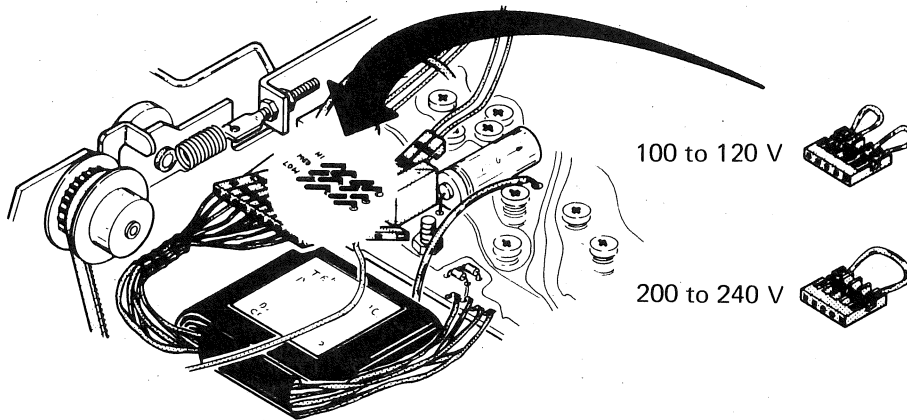

Fig. 5-2.
3. The power supply board has three rows of four pins each. The pins are jumpered by a connecting block which contains a pair of jumper wires. Remove the block by pulling it loose from one of the rows of pins. Then position the jumper wires in the block according to the voltage range desired. (See Fig. 5-2). When the 200 to 240 volt range is used, one end of the spare single jumper wire may be connected to the middle space of the block, and the other end of the jumper may be connected to an available spare connection on the block.
4. Insert the jumper block onto the pins according to the desired voltage rating. (See Fig. 5-2).